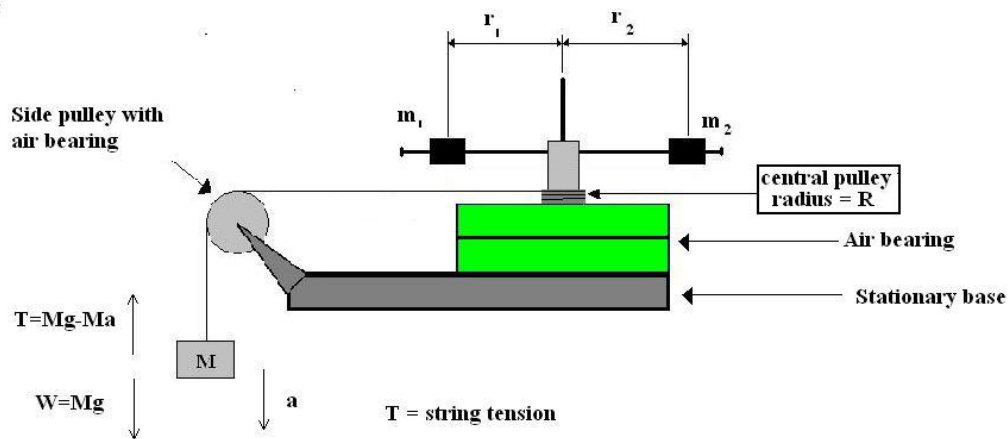
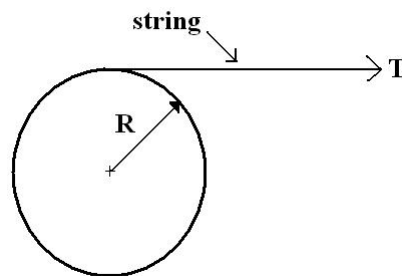
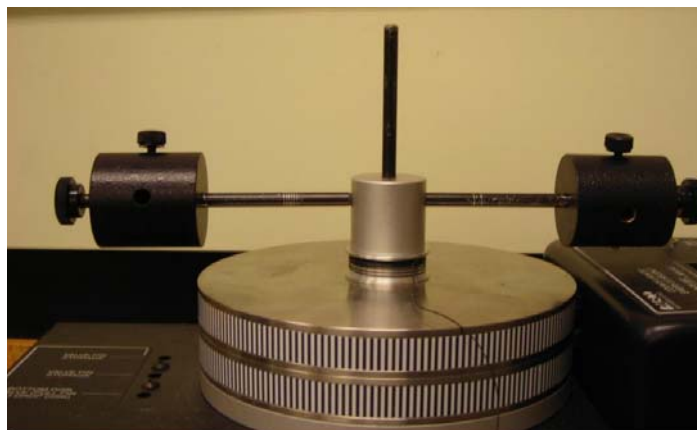

Figure 7.3: Moment of Inertia Apparatus
Figure 7.4: Central Pulley (axle)
Figure 7.5: View of main axle with 2 masses at same radius r
In our case, the rigid body consists of two cylinders, which are placed on a metallic rod at varying radii from the axis of rotation. The cylinders and rod are supported by a rotating platform attached to a central pulley and nearly frictionless air bearings. A side view of the apparatus is shown in Figure 7.3 and a top view of the central pulley is shown in Figure 7.4.
To set up your rigid body, wrap the string around the central pulley (axle) and run it over the side pulley to a known weight as shown in Figure 7.3.
From Figure 7.3 and Newton's Second Law, the tension in the string is:
1. Measure and record the masses of the hanging mass (M) and the two cylinders (m_1 and m_2).
2. Place the cylinders on the horizontal rod such that the axes of the cylinders are along the horizontal rod (as shown in Figure 7.5). Make sure the thumbscrew on each cylinder is tightened. The center of mass of each cylinder must be the same distance (r) from the axis of rotation (i.e. $r_1 = r_2$ in Figure 7.3). Estimate the uncertainty in r (called δr). This should include both the uncertainty in reading your ruler and the uncertainty in locating the cylinder's center of mass.
3. With the air supply on, attach the hanging mass (M) to one end of a string and wind the other end around the central pulley. The string should also pass over the side pulley such that the hanging mass is just below the side pulley. Hold the hanging mass stationary and measure its elevation (y) using the floor as your reference level. Record this elevation in your spreadsheet and assign an appropriate uncertainty to this measurement. Then release the hanging mass and simultaneously start the desktop timer. When the mass hits the floor, stop the timer. For the uncertainty in this time (δt), use the standard deviation of a measurement (denoted by s) from the Reaction Time experiment.